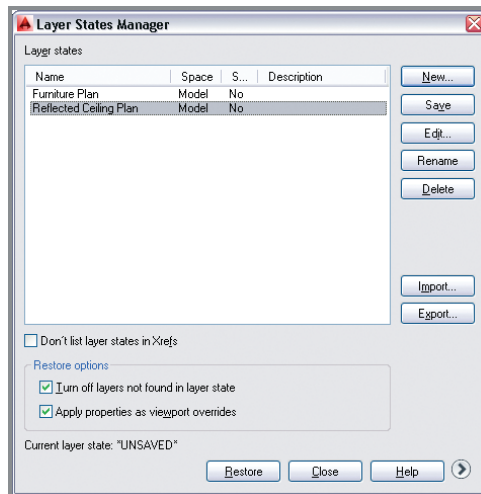

FIGURE 14.30 Restoring a layer state in floating modelspace
12. Type **LAYERSTATE**, and press Enter. Select the Reflected Ceiling Plan layer state, and then click the Restore button (see Figure 14.30).